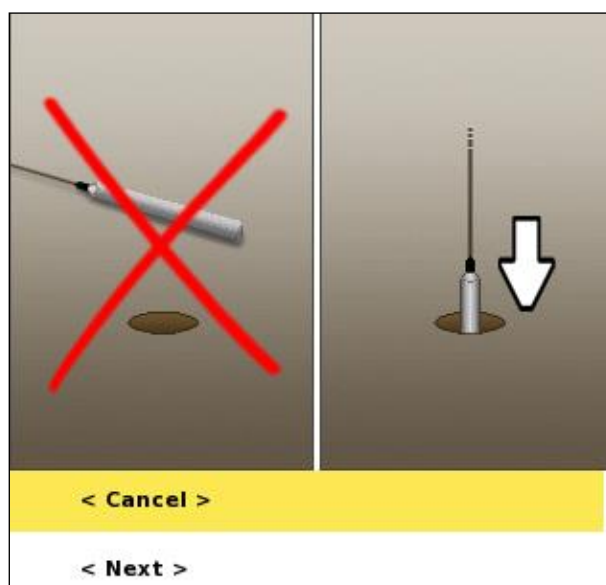

Figure 82 First Check level dialog
- The first dialog (Figure 82) instructs the user to lower the probe into the well